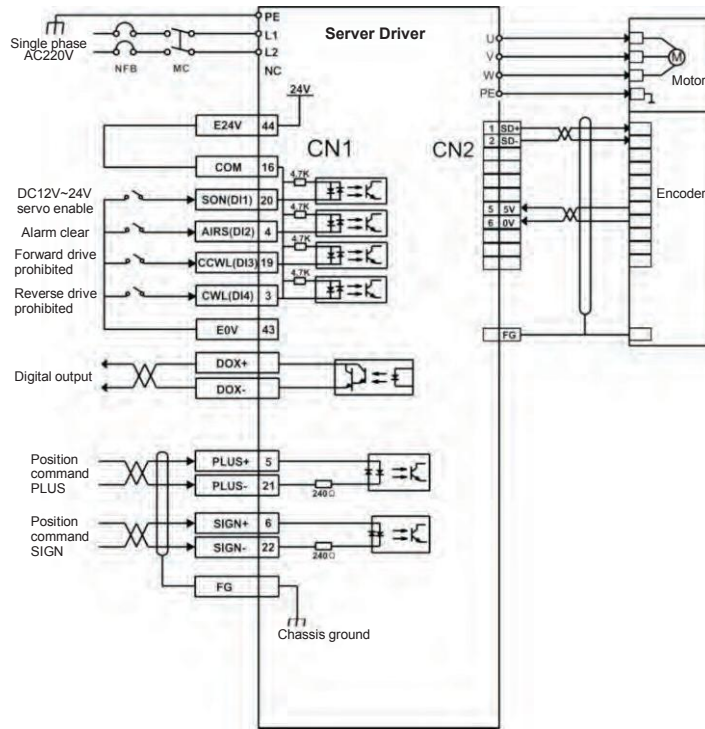

Figure 5.2 Position mode wiring diagram
- 3) Refer to Figure 5.2 for wiring instructions to connect the pulse direction input and pulse command input in the CN1 terminal, as well as the required DI/DO signals, such as servo enable, alarm clear, positioning completion signal, etc.